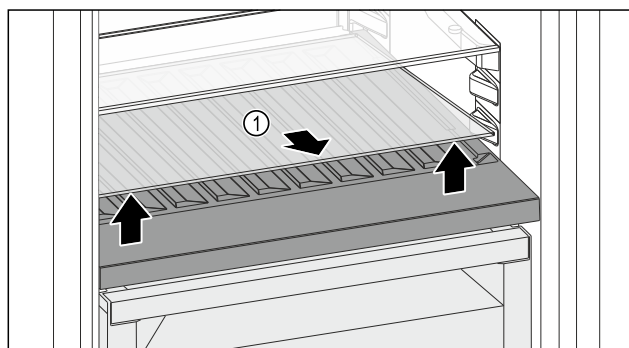

Fig. 84
- Lift the glass shelf Fig. 84 (1) at the front and remove.
- Store the glass shelf Fig. 84 (1) in a safe place outside the appliance.